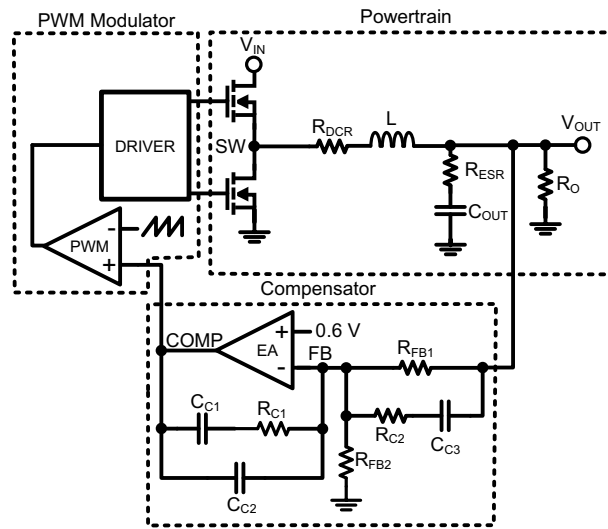
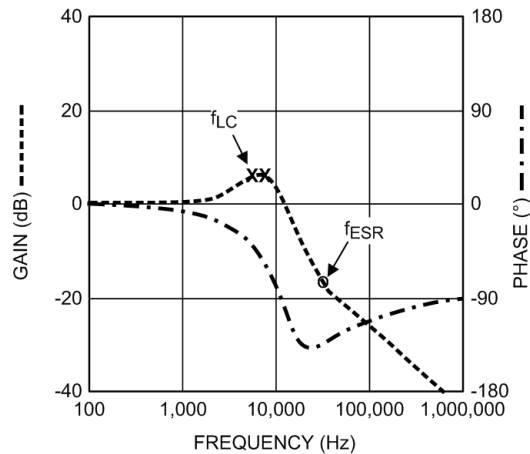

Figure 35. Control Loop Schematic Diagram
Figure 36. Powertrain Bode Plot
There are three main blocks of a voltage-mode buck switcher that the power supply designer needs to consider when designing the control system: power train, PWM modulator, and compensator. A diagram representing the control loop is shown in Figure 35.
The power train consists of the filter inductor (L) with DCR (R_{DCR}), output capacitor (C_{OUT}) with ESR (effective series resistance R_{ESR}), and effective load resistance (R_O). The error amplifier (EA) regulates the feedback (FB) voltage to 0.6V. The passive compensation components around the error amplifier establish system stability. Type-III compensation is shown in Figure 35. The PWM modulator establishes the duty cycle command by comparing the error amplifier output (COMP) with an internally generated ramp set at the switching frequency.
Figure 36 shows the bode plot of the above transfer function.
The complex poles (f_{LC}) created by the filter inductor and output capacitor cause a 180° phase shift as seen in Figure 36. The phase is boosted back up to -90° by virtue of the output capacitor ESR zero. The phase shift caused by the complex poles must be compensated to stabilize the loop response. The compensation network shown around the error amplifier in Figure 35 creates two poles, two zeros and a pole at the origin. Placing these poles and zeros at the correct frequencies optimizes the loop response. The compensator transfer function is: